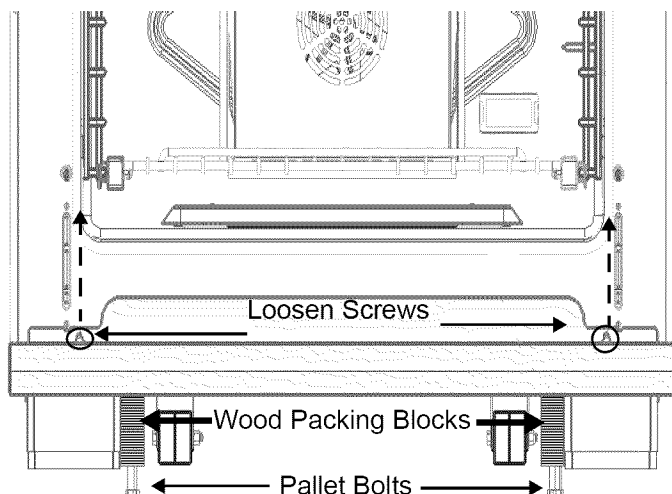

FIGURE 6: DOOR TRIM, PACKING BLOCKS, & PALLET BOLTS
- All ranges are held to the pallet by (4) bolts through a wood block center (Figure 6). The two front pallet bolts are accessible only after removing the Door Trim located beneath the doors.